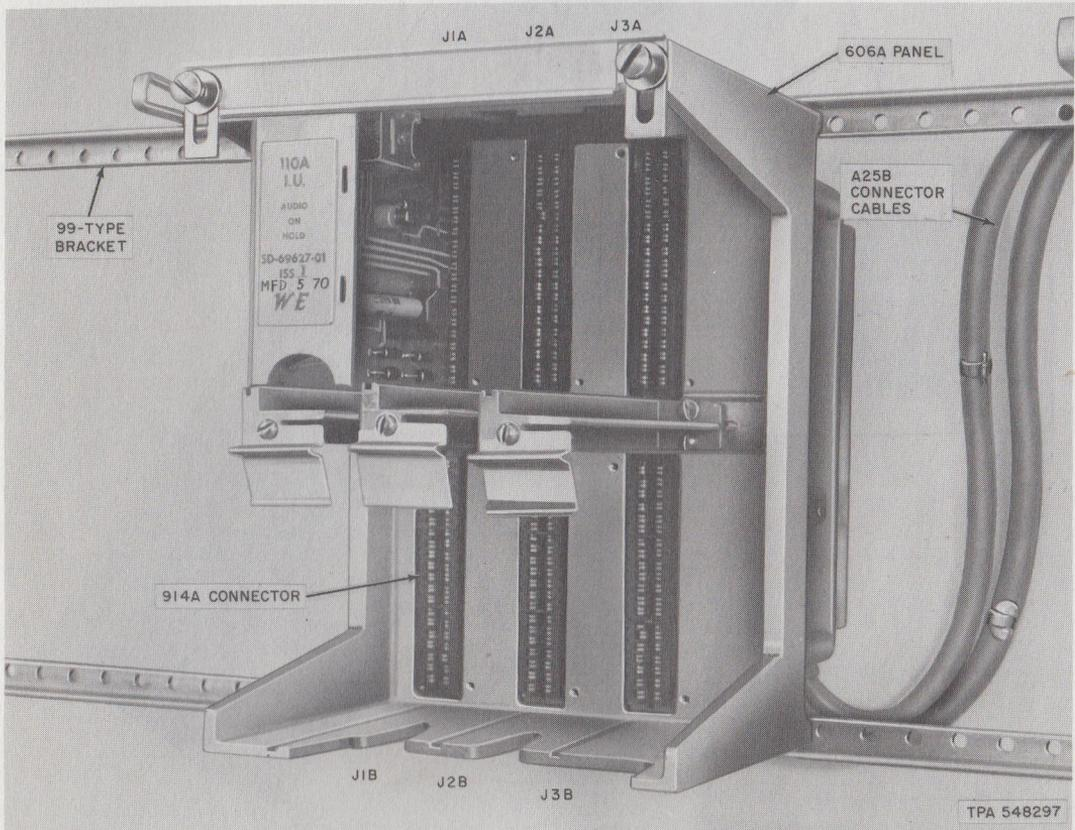
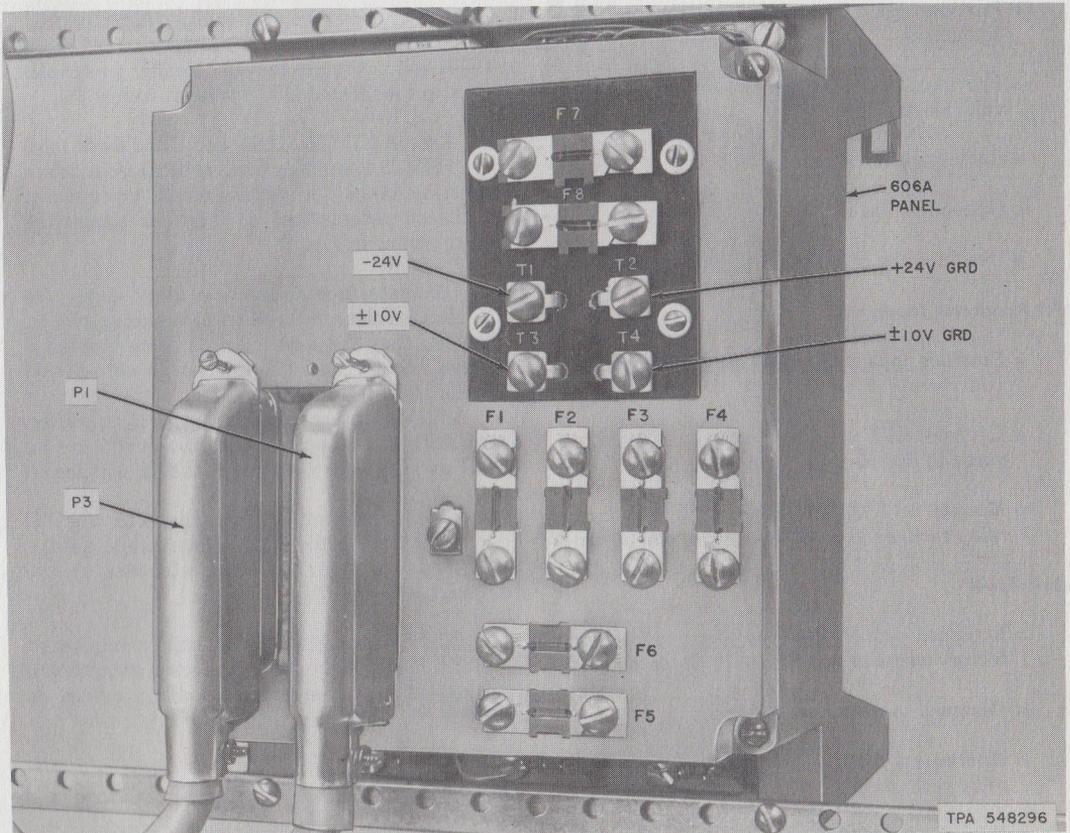

Fig. 3—606A Panel Mounted on Relay Rack
Fig. 4—606A Panel (Rear View)
For 606A Panel (Fig. 3 and 4)
3.08 Electrical connection is made to the 606A panel through two A25B connector cables. These cables connect to plugs P1 and P3 (Fig. 4) on the rear of the 606A panel. P1 connects to the upper row of 914A connectors J1A, J2A, and J3A (Fig. 3), and P3 connects to the lower row of 914A connectors J1B, J2B, and J3B. Terminate the raw end of the A25B connector cables on the 66B4-25 connecting block following the wiring plan shown in Fig. 6, 7, 9, and 10. (Refer to Part 6 for wire strap and resistor connections.) Connect -24 volt power to fuse panel on rear of 606A panel (-24 volts connect to T1 and GRD connects to T2).
6.04 For connection information using the 606A panel, refer to Fig. 4, 9 and 10.